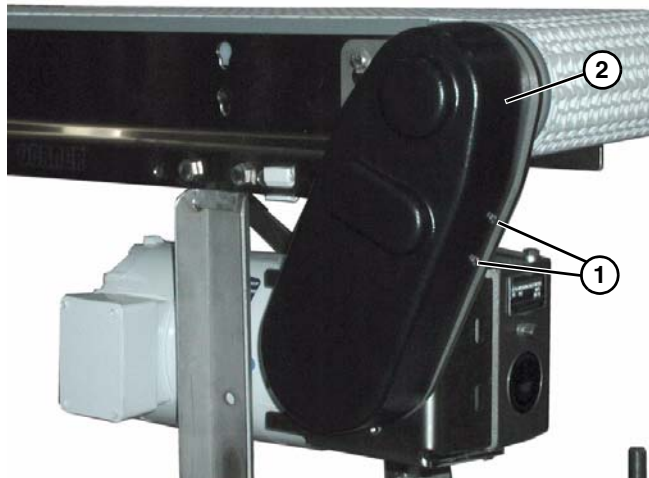

Figure 12
1. Remove four bolts (**Figure 12, item 1**) and remove cover (**Figure 12, item 2**).
5. Install cover (**Figure 12, item 2**) with four screws (**Figure 12, item 1**).